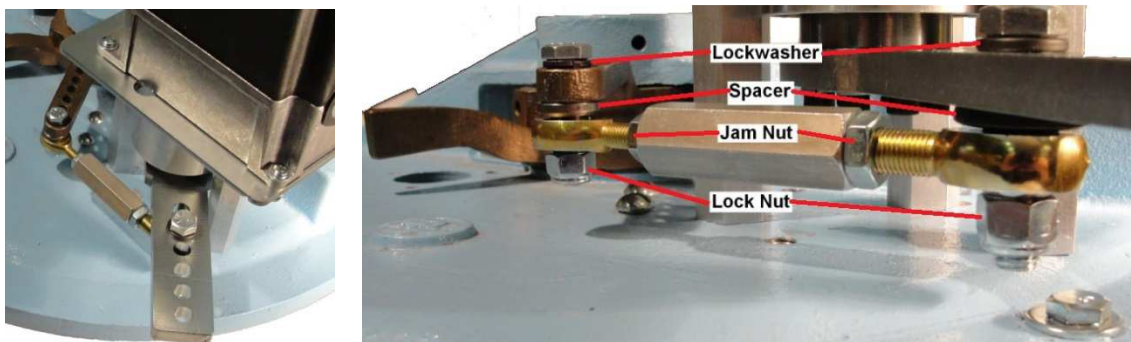

Figure 13: Turnbuckle Installation
12. Using the 3/8"-16 x 1.75" and 1/4"-20 x 1.25" bolts in combination with the lock washers, spacers, and lock nuts, install the turnbuckle assembly. The smaller rod end (1/4") of the turnbuckle assembly connects to the existing bronze crank arm on the air damper, and the larger rod end (3/8") connects to the bearing block assembly crank arm. Install the lock washers, spacers, and lock nuts as detailed in Figure 13 below.